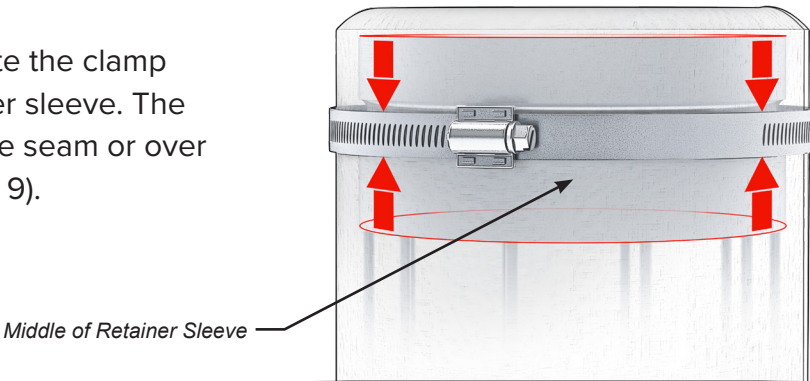

FIGURE 9
4. Place the clamp over the bag and locate the clamp approximately in the middle of the retainer sleeve. The clamp head should not be placed over the seam or over the gap in the retainer sleeve (see Figure 9).